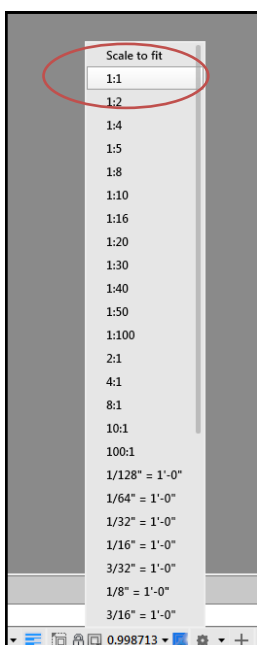

FIG 13.0
**Note** : Special care must be taken not to “**Zoom**” the view, as this will alter the “**Scale**”. If the view is accidentally zoomed the scale can be restored by changing the scale value as seen in Figure 13.0